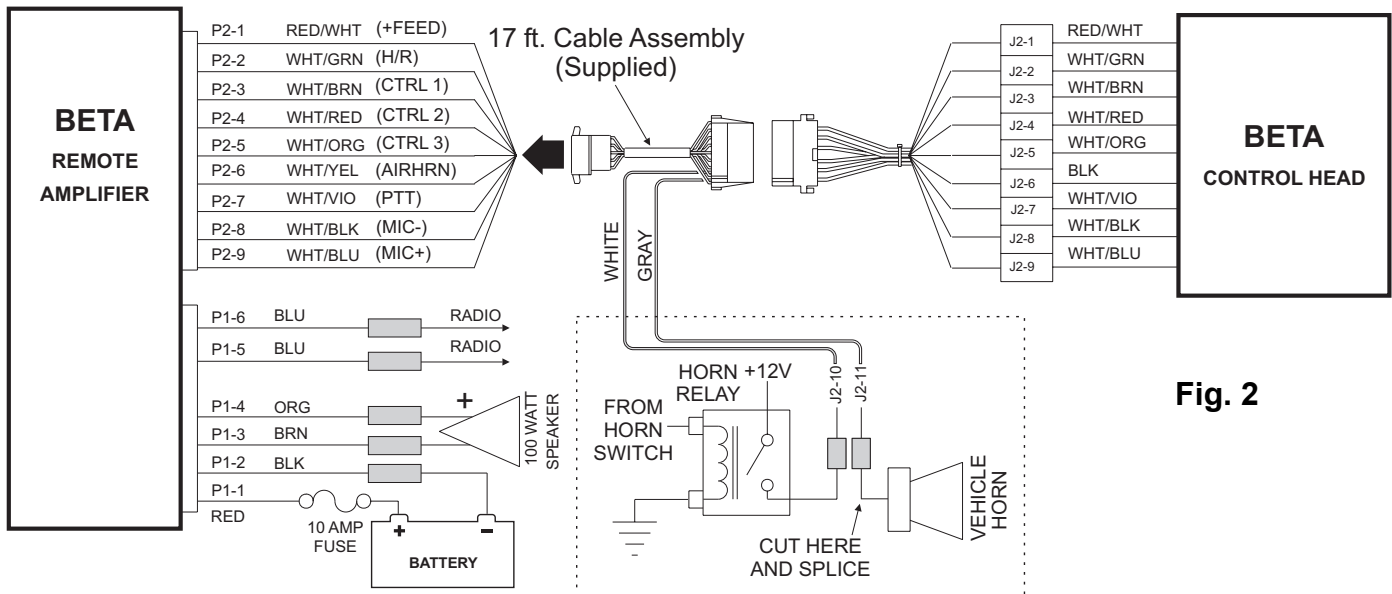

Fig. 2
To hook up the *BETA I™* control head simply plug the 17 ft. cable (supplied) into the control head then route the other end of the cable to the amplifier. (Fig. 2)
1. Locate your vehicle's horn relay. Now locate the wire that connects the vehicle horn to the horn relay output and cut this wire. (Fig. 2)